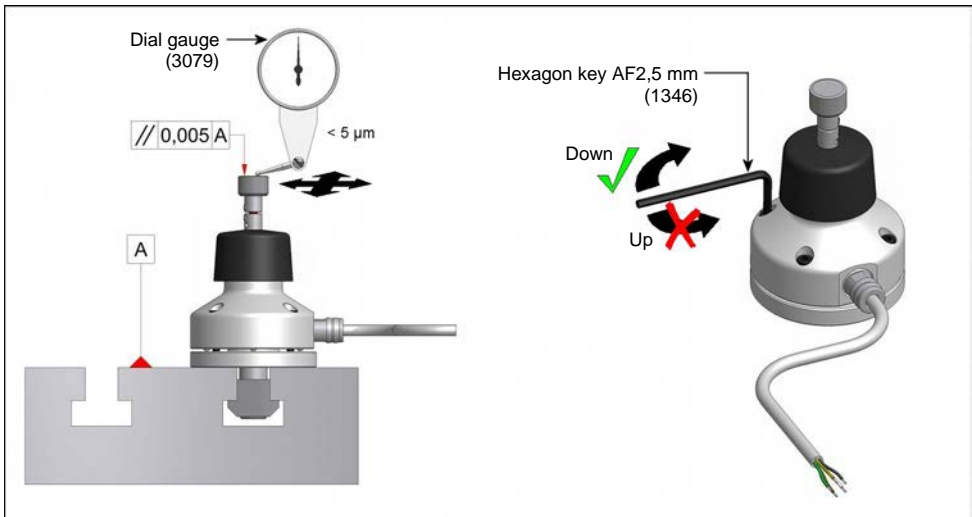

Fig. 8 Aligning the Stylus
3. Insert the tube fitting (2543) with sealing ring in a appropriate bore in the machine wall and secure on the back with the related nut (refer to Fig. 8).